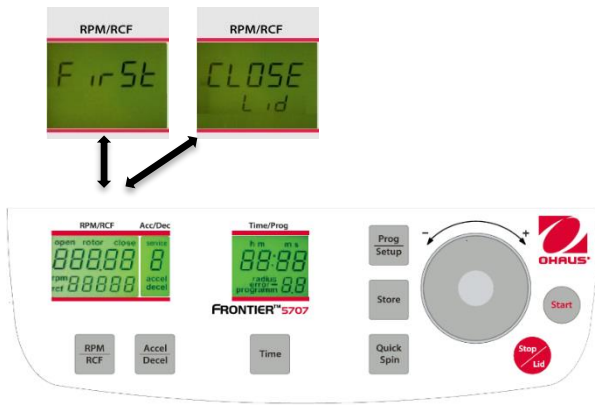
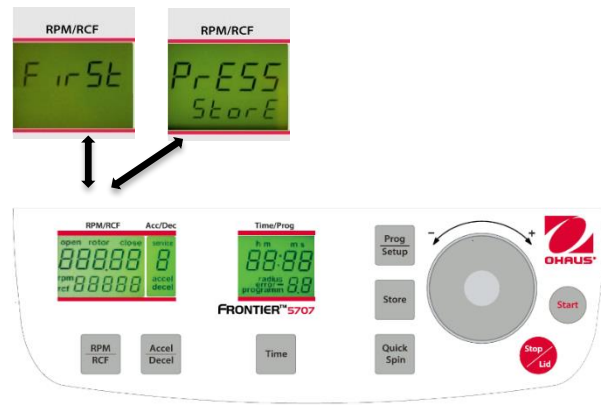

Figure. 21
Figure. 22
Close the lid of the centrifuge. Now proceed as described previously to set all important run parameters. If the lid isn't closed when storing the program, in the display **"RPM/RCF"** (A-1), the words **"FirSt"** and **"CLOSE Lid"** (See figure 21) flashes alternately. If you want to start the run without storing the program, in the display **"RPM/RCF"** (A-1), the words **"FirSt"** and **"PrESS StoreE"** (See figure 22) flashes alternately.
For adaption of data press the key **"Store"** (2) (refer to figures 21 and 22) for approx. 1 second. If the program is stored correctly, the word **"StorE"** appears in the display **"RPM/RCF"** (A-1). As a result, the word **"programm"** (M10) disappears.